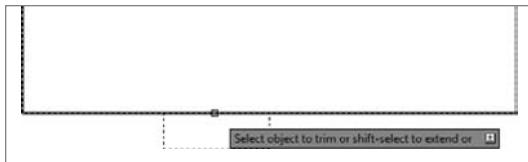

FIGURE 4.10 Selecting the polyline segment to trim away
6. Trim the pop-out by selecting it as the cutting edge. When prompted to **Select object to trim or shift-select to extend or**, select the long horizontal line of the cabin between the two vertical lines that define the pop-out, as shown in Figure 4.10.